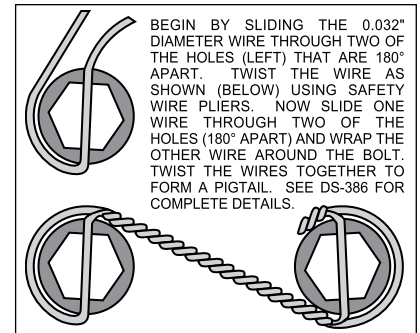

Figure 3. Safety Wire Diagram
- The caliper mount bracket assembly (1) should be installed first with clean, dry threads on the mounting bolts. Install the bracket (1) on the inboard side of the hub by sliding bolt (2) through washer (3). Place two shim washers (4) between the bracket (1) and the mounting ears. The bracket must tighten squarely against the inboard side of the caliper mount ears on the upright. Inspect for interference from casting irregularities, machining ridges, burrs, etc. Later, after the caliper, pad, and rotor alignment has been checked, and any necessary shims have been put in place, the mounting bolts should be coated with red *Loctite*® 271 and torqued to 47 ft-lbs.
- With the larger I.D. side of the rotor (6) facing away from the hat (7), bolt rotor (6) to hat (7) through the backside of the rotor using washers (8) and bolts (9). Apply red *Loctite*® 271 to the bolt threads and torque to 140 **in-lb** using a criss-cross pattern. For an added measure of security, the bolts may be safety wired using standard 0.032 inch diameter stainless steel safety wire as shown in Figure 3. Please refer to Wilwood's data sheet DS-386 (available at www.wilwood.com/Pdf/DataSheets/ds386.pdf) for complete safety wire installation instructions.